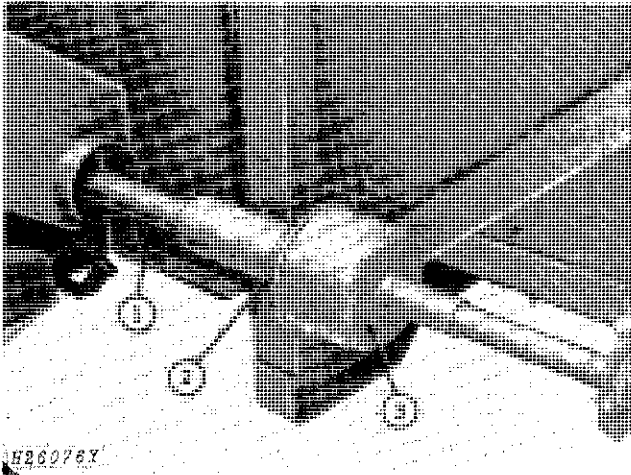

Fig. 108-Securing Row-Crop Head and Feeder House Together
1. Secure the row-crop head and feeder house together with three 1/2 x 1-1/2-inch round head bolts (Fig. 108).
2. Slide the feeder house coupler sprocket against the row-crop head coupler sprocket (Fig. 108). Teeth on the sprockets must be positioned directly across from one another. Install chain around sprockets. Slide the feeder house coupler housing back and let it snap over the sprockets and chain. The coupler housing encloses the sprockets and chain together.
3. Slide the row-crop head slip clutch shield over the slip clutch (Fig. 108).